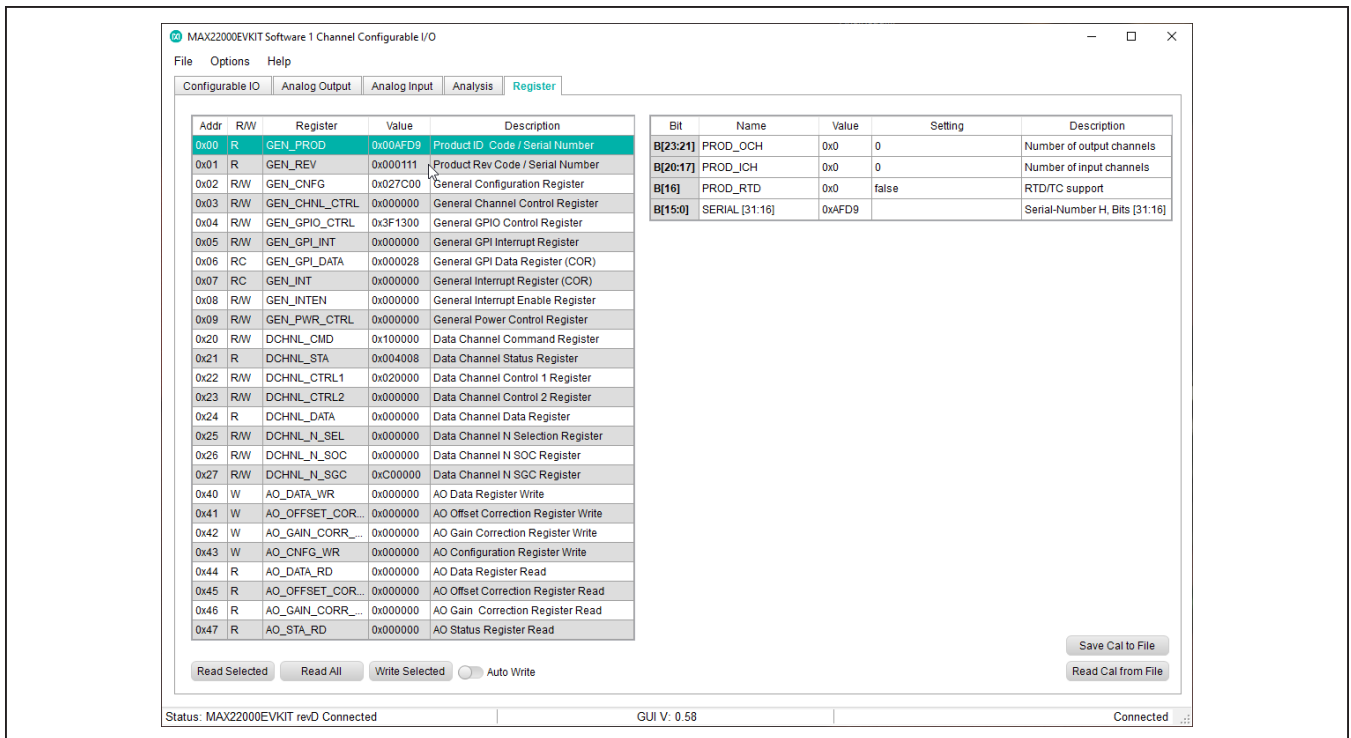

Figure 2. MAX22000 EV Kit Software, Register Access Test
- 11) Inspect the bottom 16 bits of register 0x00 (GEN_PROD) and the bottom 16 bits of register 0x01 (GEN_REV) are not all zeroes (Figure 2).